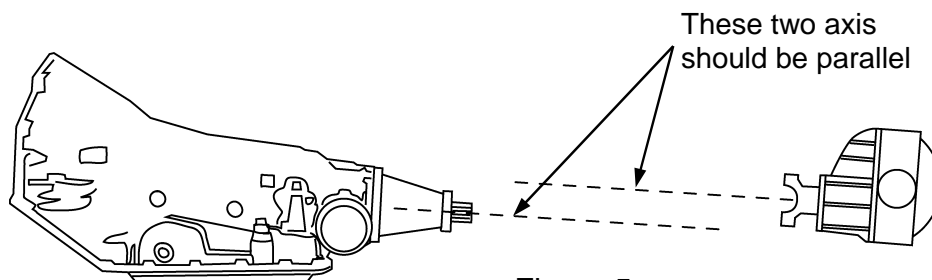

Figure 5
4. The pinion angle can be fine adjusted using the Lower Link Bars, see Figure 5. Install a coil-over shock crossmember per it's instructions, and install coil-overs onto the crossmember and axle housing brackets using a coil-over hardware kit.